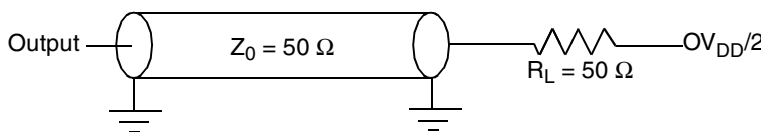

Figure 21. Local Bus C Test Load
Figure 21 provides the AC test load for the local bus.
- All outputs are measured from the midpoint voltage of the falling/rising edge of t_{CLK} to the midpoint of the signal in question. The output timings are measured at the pins. All output timings assume a purely resistive 50-Ω load (see Figure 21). Time-of-flight delays must be added for trace lengths, vias, and connectors in the system.
- The symbols used for timing specifications herein follow the pattern of $t_{(first\ two\ letters\ of\ functional\ block)(signal)(state)\ (reference)(state)}$ for inputs and $t_{(first\ two\ letters\ of\ functional\ block)(reference)(state)(signal)(state)}$ for outputs. For example, t_{JTDVKH} symbolizes JTAG device timing (JT) with respect to the time data input signals (D) reaching the valid state (V) relative to the t_{JTG} clock reference (K) going to the high (H) state or setup time. Also, t_{JTDXKH} symbolizes JTAG timing (JT) with respect to the time data input signals (D) went invalid (X) relative to the t_{JTG} clock reference (K) going to the high (H) state. Note that, in general, the clock reference symbol representation is based on three letters representing the clock of a particular functional. For rise and fall times, the latter convention is used with the appropriate letter: R (rise) or F (fall).